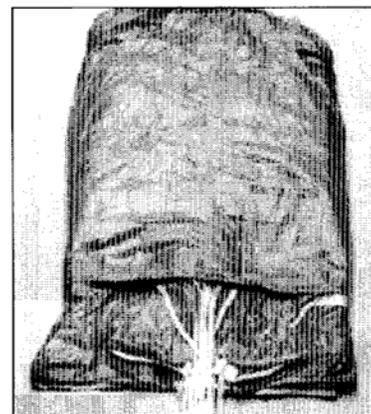

Figure 4
**Step 9** Wrap the tail around the canopy stack making sure that you do not enclose the nose in the wrap. To get a good distribution within the deployment bag, make the width of the canopy 2 - 4 inches wider than the bag. *Figure 4*